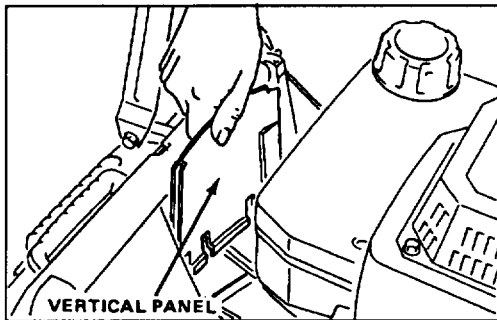

Figure 25
3. Remove the vertical panel in front of the transmission by pulling straight up (Fig. 25).